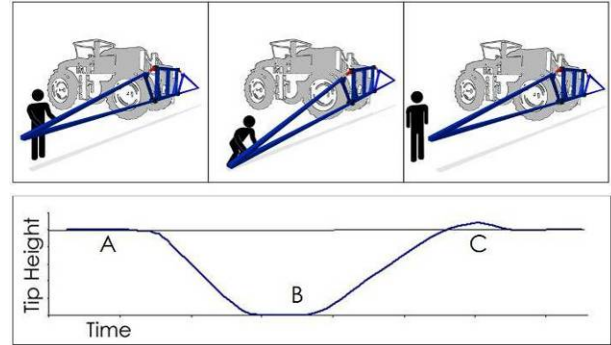

Figure 5: Boom Push Test- Critically Damped
- Set boom suspension to be critically damped (Figure 5). Adjust the boom damper accordingly.